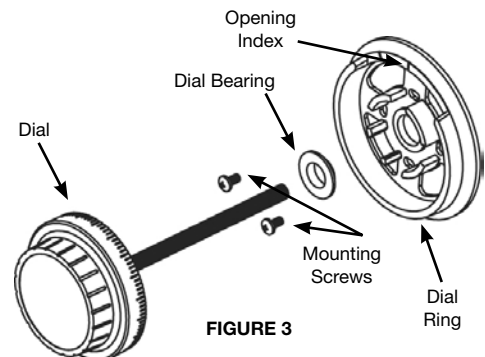

FIGURE 3
7. Place the dial bearing onto the dial ring. (Figure 3.)